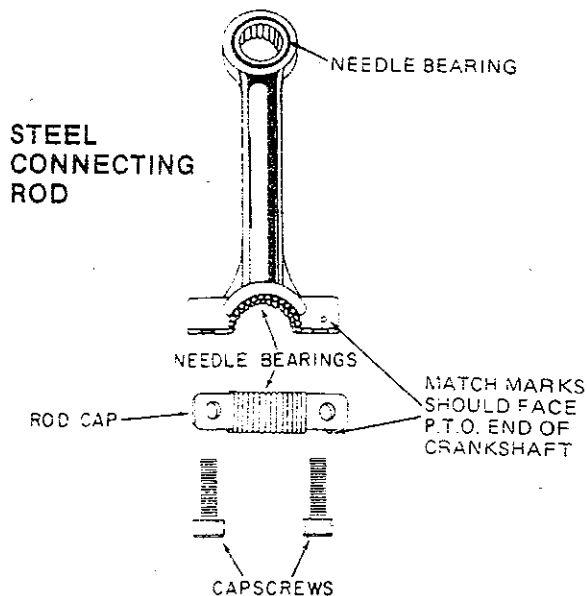

Figure 13
- shaft will be withdrawn together. (See Figure 13).